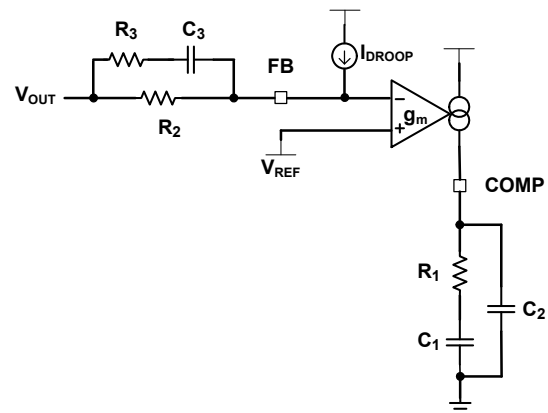

FIGURE 3. COMPENSATION ADJUSTMENT
11. Using a VRTT, load the part with a transient from 1A to I_{CCmax} , at a 300Hz rep rate, and monitor V_{OUT} on the scope. Trigger on the falling edge of V_{OUT} and adjust the compensation components as needed to fine tune the transient response. (See Figure 3)